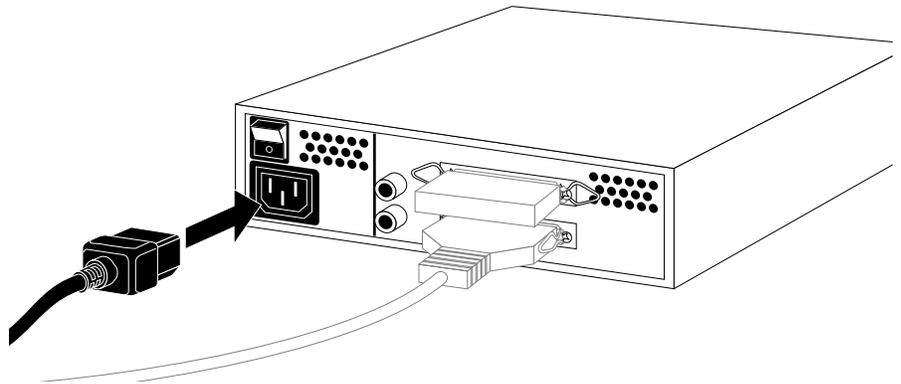

Figure 6-9 Connecting the Power Cable to an External Device
6. Connect one end of the power cable that came with the external device to the power connector on the back of the device, as shown in Figure 6-9. If you are finished connecting external devices, go on to the section “Testing the External SCSI Device”.